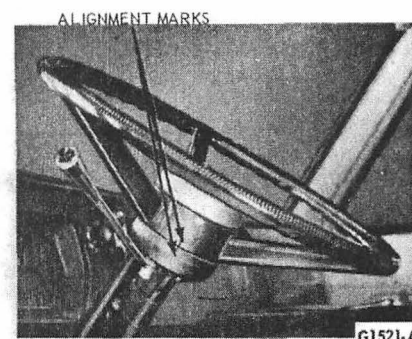

FIG. 1—Straight Ahead Position Marks—Econoline
1. Drive the vehicle in a straight line far enough to establish the straight-ahead position of the front wheels, and then place corresponding chalk marks on the steering column and steering wheel hub (Fig. 1).